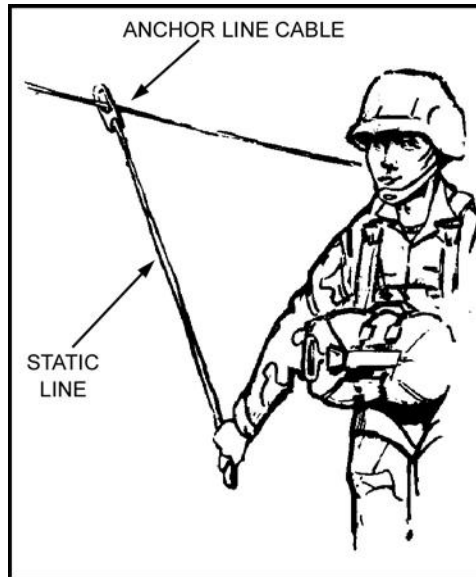

Figure 16-5. Static line grasped with reverse bight.
(1) An oral 10-minute warning is given, and the JM begins the jump commands. Prior to the 10-minute warning, the JMs hook up to the anchor line cable, hand the static line to the safety, and announce, SAFETY, CONTROL MY STATIC LINE. The JM then issues the jump commands.
(2) Jumpers hook up to the appropriate anchor line cable with the open gate of the static line snap hook facing toward the skin of the aircraft. They maintain a reverse bight (Figure 16-5).